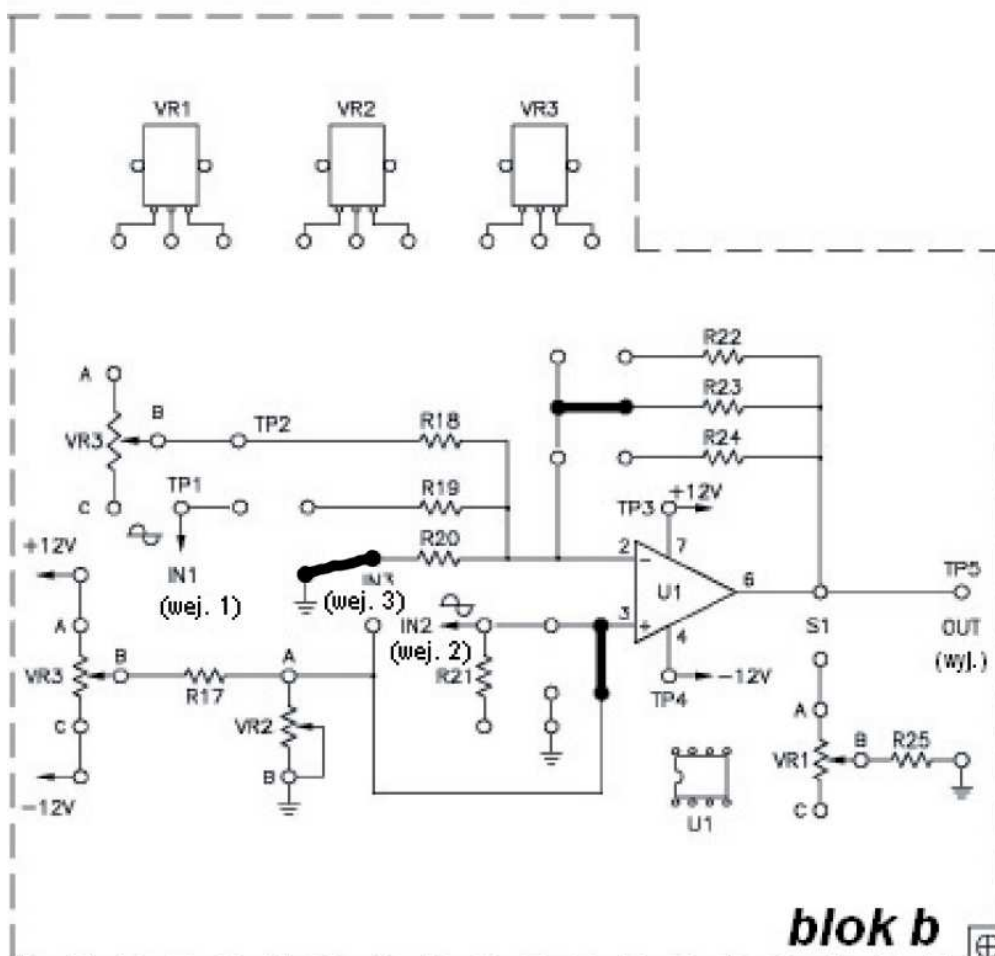

Fig. 2: Electrical assembly schematic (KL-25006 part b)
1. Make the connections according to the assembly schematic fig. 2. The circuit should be powered with + 12 V_{DC} and – 12 V_{DC}.